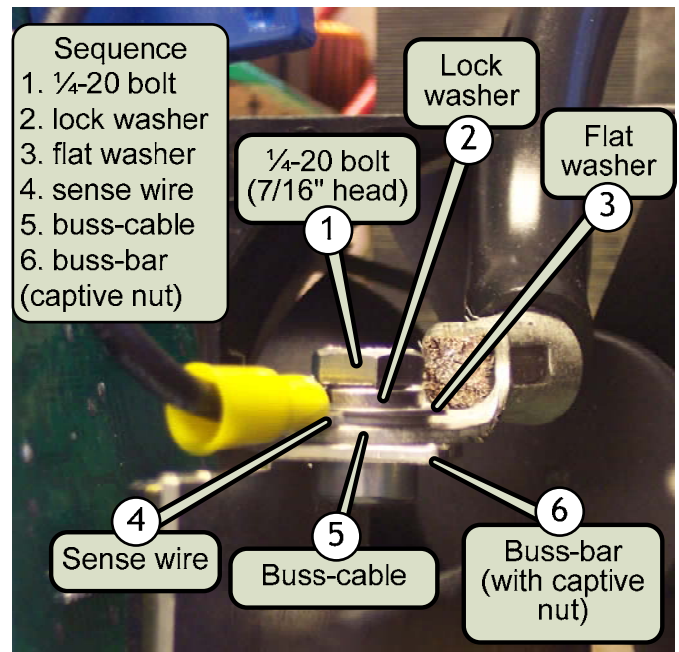

Figure 5, Connections to Buss-bar
**Caution:** Ensure these ¼-20 bolts are reconnected in the same way as they were removed and are correctly torqued. These connections are required to carry very high DC current and an improper connection will affect the performance of the inverter and may cause damage; see figure 5 for reference.